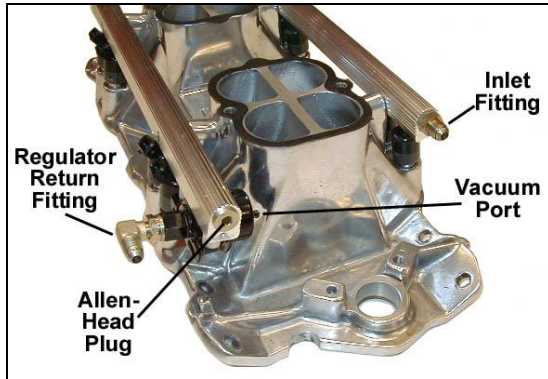

Figure 1
2. Install the fuel pressure regulator to the driver's side (long) fuel rail. Put a light amount of Vaseline® or petroleum motor oil on the regulator O-ring before installing it in the fuel rail. Use the 2 aluminum spacers and 2 flat-head Allen screws (provided) to install the regulator. The regulator will be at the end of the rail on the driver's side. The regulator outlet will face the outside of the engine. Tighten the screws securely. See Fig. 1.
4. Install the (4) ¼-20 x 1 Allen-head screws to fasten the rails to the lower intake manifold. Tighten them securely.